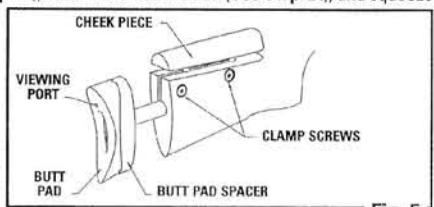

Fig. 5
- Loosen the two clamp screws located below the cheek piece using a 5/32 Allen head wrench (Fig. 5).